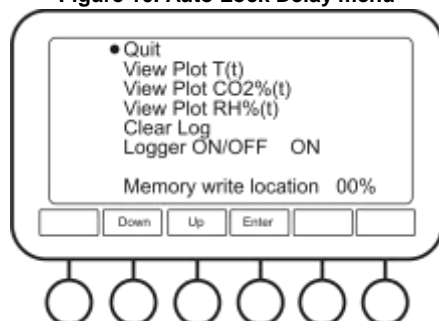

Figure 12. Data Logger
5.9.5 **Data Logger** (fig. 12). Data logger features following options: View Plot T(t), View Plot CO₂%(t), View Plot RH%(t), Clear log, Logger on/off.